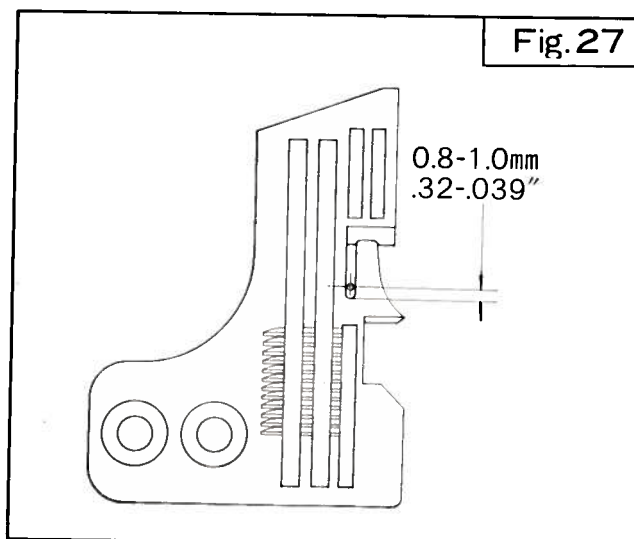

Fig. 27
2. Push up cover ⑫.
3. Slightly loosen screw ⑬.
4. Move arm ⑭ to right or left until needle descends in the center of the needle hole in needle plate.
5. Reset arm ⑭ to correct clearance as listed below at its highest position.
6. Tighten screw ⑬ securely.
7. Return cover ⑫ and foot to the sewing position.
At this time, with arm ⑭ down, check to see that there is clearance between the front edge of the needle hole in needle plate and needle as shown in Fig. 27.